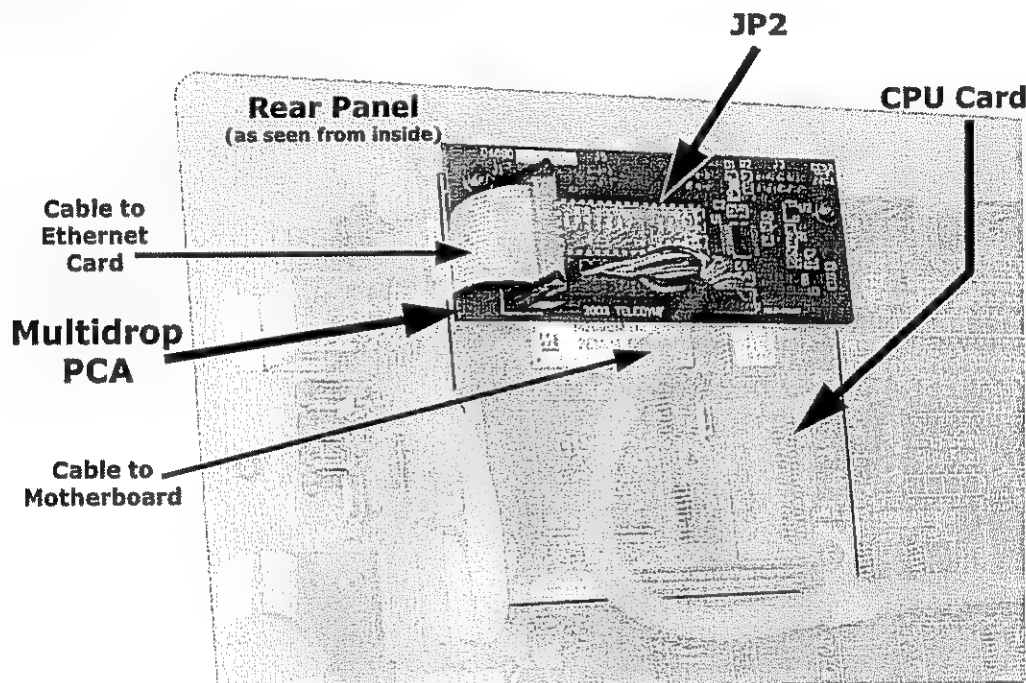

Figure 6-12: Location of JP2 on RS232-Multidrop PCA (option 62)
The RS-232 multidrop consists of a printed circuit assembly that plugs onto the CN3, CN4, and CN5 connectors of the CPU card (see Figure 6-12) and the cabling to connect it to the analyzer's motherboard. This PCA includes all circuitry required to enable your analyzer for multidrop operation. It converts the instrument's COM1 port to multidrop configuration allowing up to eight analyzers to be connected the same I/O port of the host computer.
5. Remove the top cover (see Section 3.1) of the analyzer and locate JP2 on the multidrop PCA (see Figure 6-12)